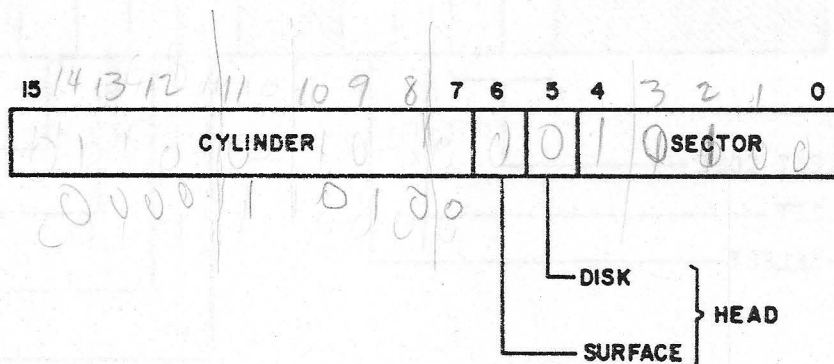

Figure 2-3. Load Address Format
**LOAD ADDRESS (010)** The Load Address function strobes the cylinder address from A into the drive and loads the surface and disk (head select) bits and sector address from A into the controller. The function initiates the head positioning motion in the file. The only addresses the controller will accept are those between cylinder 0-202 (for 856-2 CDD) and 0-405 (for 856-4 CDD) and sector 0-28. Any other cylinder or sector address will cause the Load Address to be aborted and the Cylinder Address Register will not be modified. Address Error Status will be set. Refer to Figure 2-3.